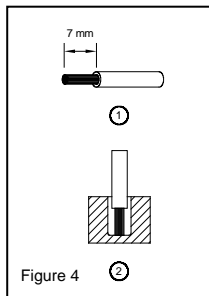

Figure 4
(1)	0.82-3.3	18-12	9.3	8.1
(2)	0.82-3.3	18-12	6.2	5.4
To secure reliable and shock proof connections, the stripping length should be 7 mm (see Fig. 4 (1)). Please ensure that wires are fully inserted into the connecting terminals as shown in Fig. 4 (2).